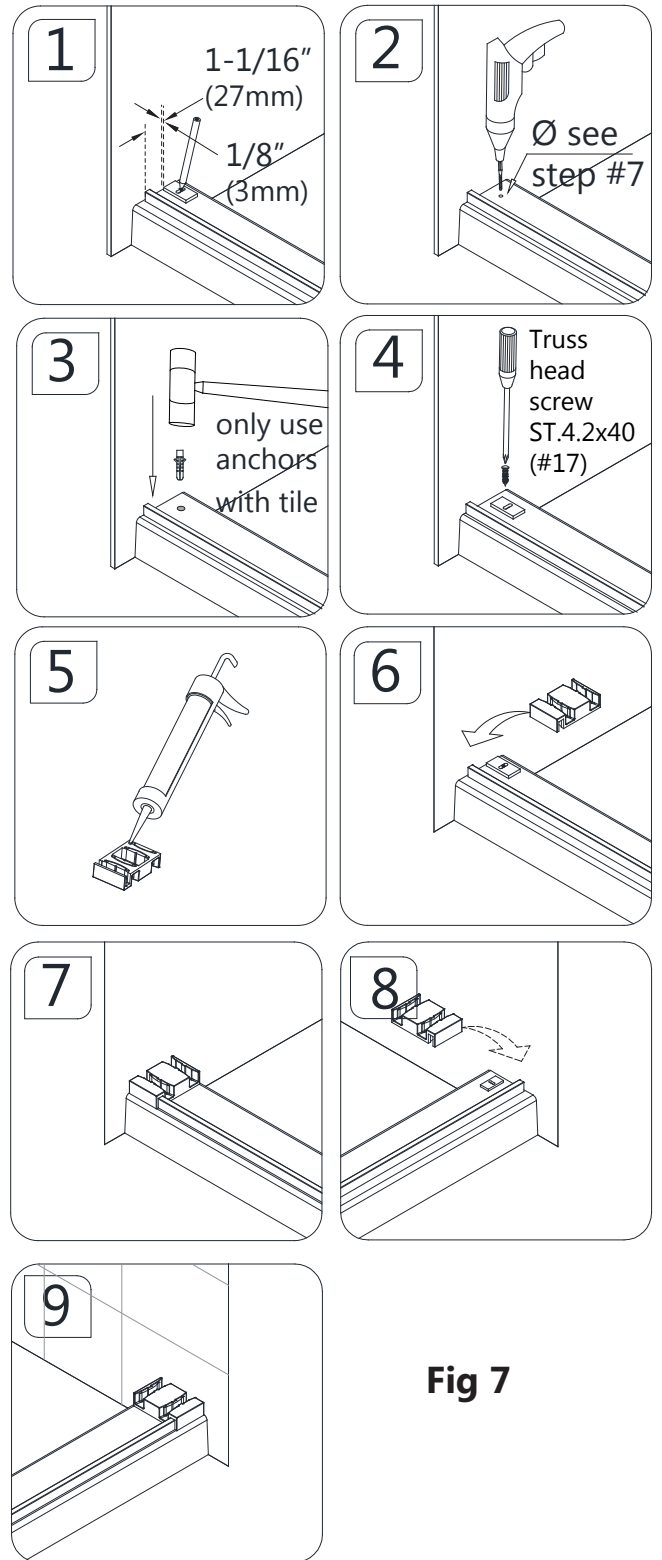

Fig 7
7. Place one of the **Guide Block Brackets (#15)** onto the threshold: **1-1/16" (27mm)** from the outside of the **Bottom Rail (#08)** and **1/8" (3mm)** from the wall. Mark the hole for drilling. (**See Fig 7 detail**)
See Fig 7 for details
Fig 7 detail